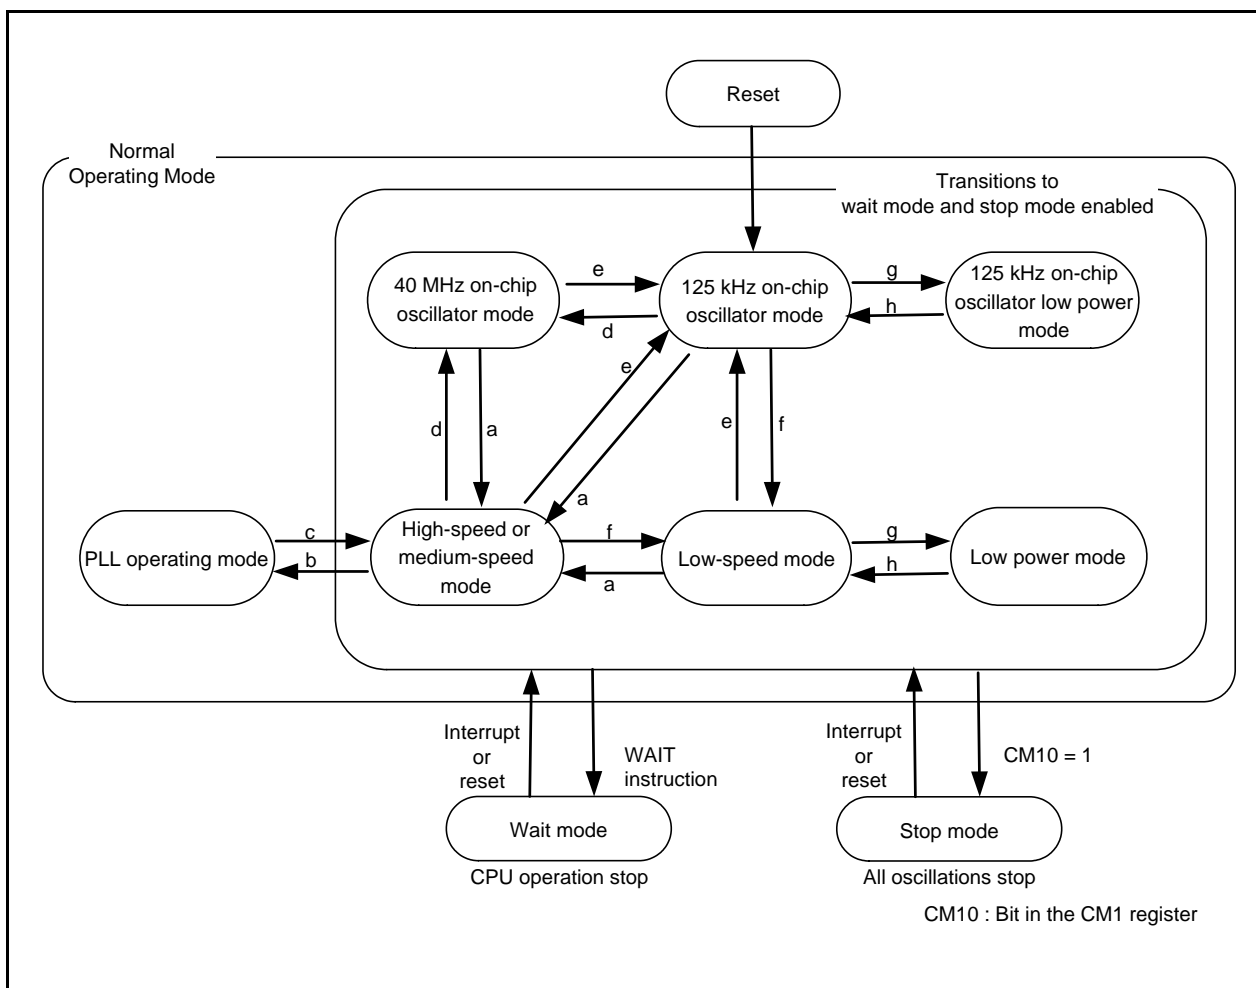

Figure 9.1 Clock Mode Transition
Figure 9.1 shows Clock Mode Transition. Arrows indicate possible mode transitions.
- To change the mode, follow procedures a to h listed below. For details on register and bit access, refer to 9.2 “Registers”. Letters a to h correspond to those in Figure 9.1 “Clock Mode Transition” and Figure 9.2 “Clock Divide Transition”.